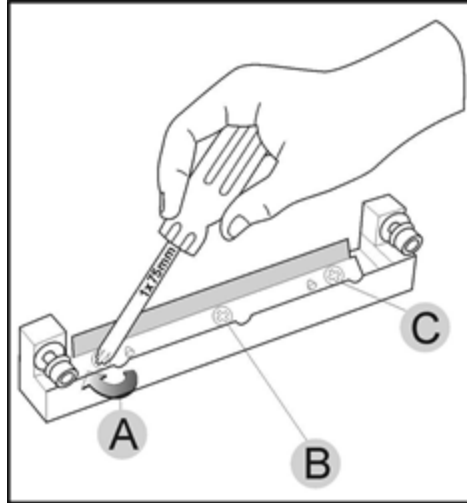

Figure 4-85 Tightening the roller scraper screws
- Tighten the screws in the order shown in Figure 4-85.